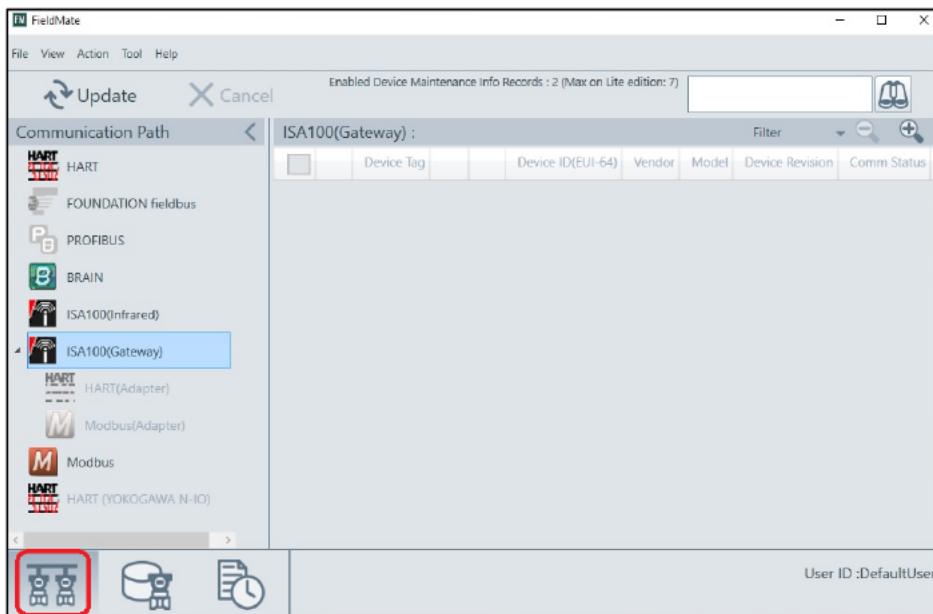

Figure 5-5 Segment viewer (main window)
- ① Launch FieldMate Lite.
- ② Click the icon (segment viewer) in the red box in
- ③ Figure 5-5, then select "ISA100(Gateway)" from the tree menu.